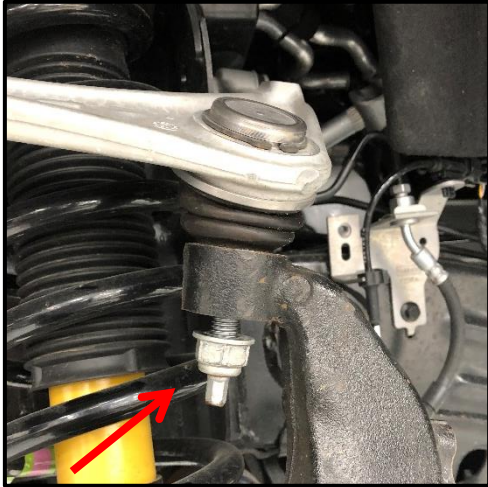

Figure 6
8. Support the lower control arm / knuckle with a jack stand and loosen upper ball joint nut using a 21mm socket (**Figure 6**).